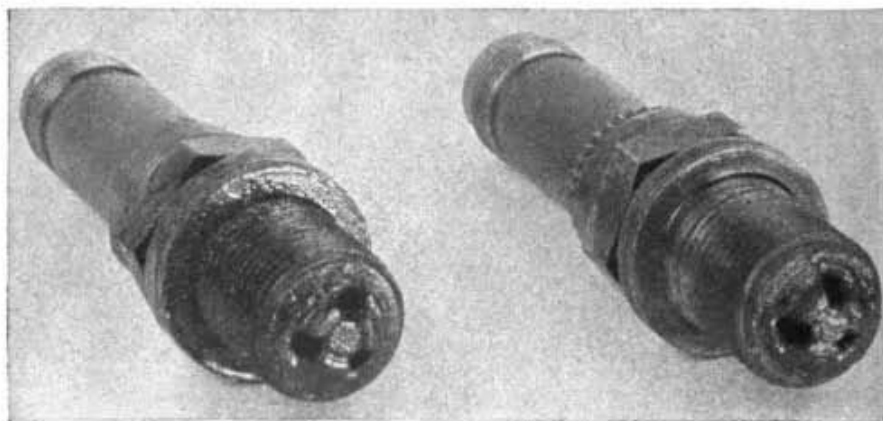

Figure 74. Fouled spark plugs.
I. Spark plug condition—black gummy deposit. By a process of elimination the mechanic finds that the fuel system functions normally, and that misfiring exists in only a few cylinders. This indicates the trouble to be in the ignition system. After stopping the engine, he places his bare hand near the cylinders and notices that a few cylinders do not "feel" as hot as the others. A visual check of the most probable causes reveals that the wiring is in good condition and the connections at the terminals properly tightened. When the spark plugs are removed from the cooler cylinders, an inspection reveals that the electrodes and the exposed portions of the plugs are coated with a black gummy deposit and fresh oil. (See fig. 74.)